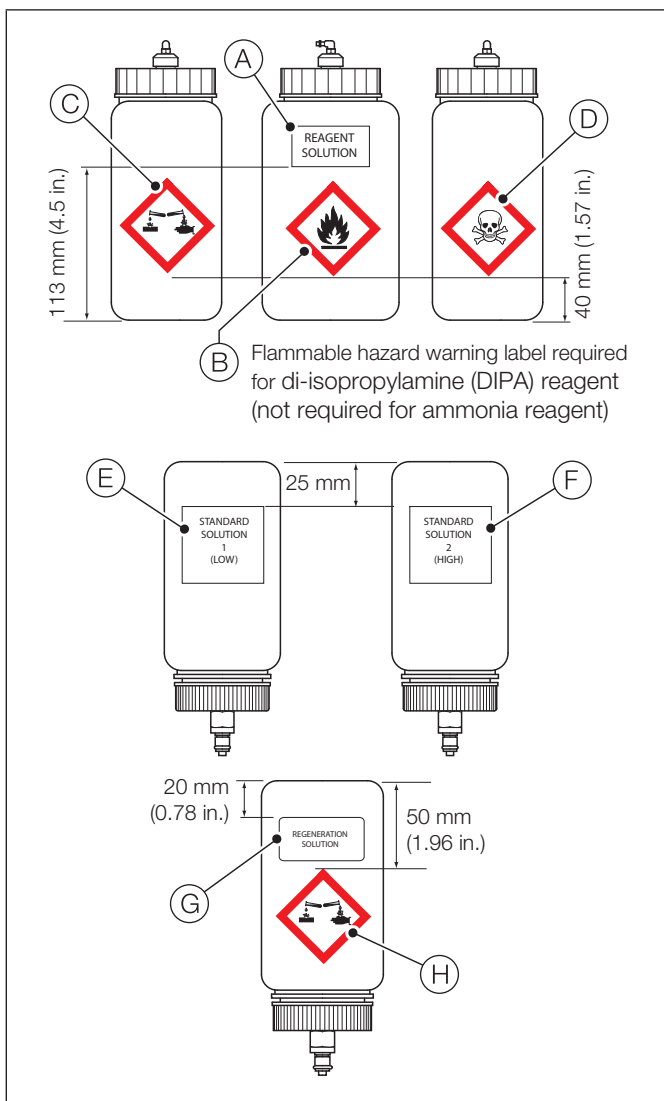

Fig. 4.2 Calibration, reagent and regeneration bottle identification and hazard warning label positions
**Note.** Fix hazard warning and identification labels centrally on each bottle using the dimensions / positions shown in Fig. 4.2, page 3.
Referring to Fig. 4.2, page 3: